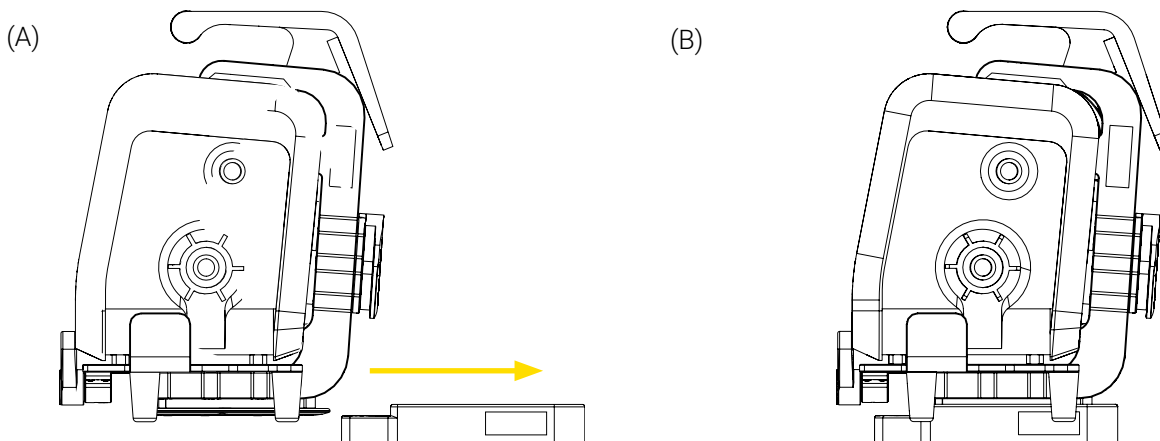

Figure 9: Installing the Bracket Pro Serie 60 - GR on the Standard Surface Base
1. Align and insert the standard bottom disc located under the Bracket Pro Serie 60 - GR horizontally in the Standard Surface Base until it is locked (Figure 9).